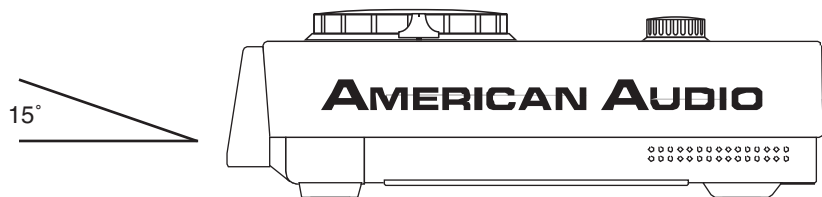

Figure 1
- The player will work normally when the main unit is mounted with the front panel within 15 degrees of the vertical plane. If the unit is tilted excessively, disks may not be loaded or unloaded properly. (**Figure 1**)